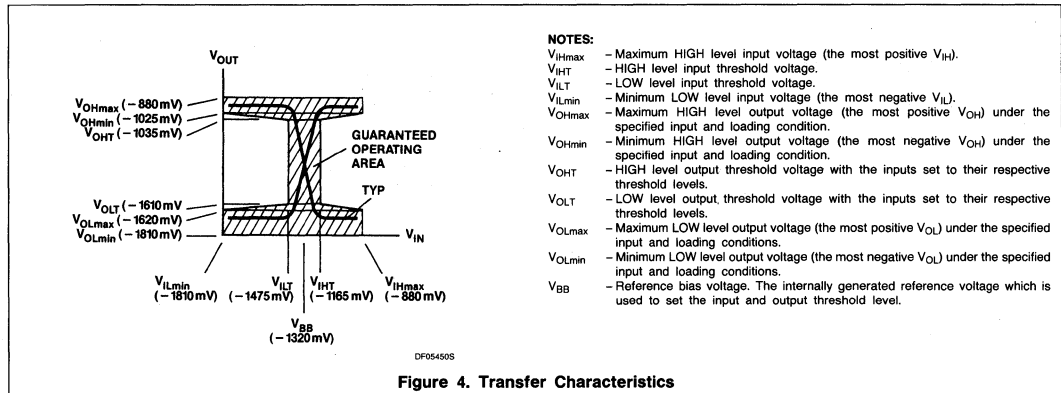

Figure 4. Transfer Characteristics
4. The specified limited shown in the DC Characteristics can be met only after thermal equilibrium has been established. Thermal equilibrium is established by applying power for at least 2 minutes while maintaining transverse air flow of 2.5 meters/s (500 linear feet/min) over the device either mounted in the test socket or on the printed circuit board. Test voltage values are in the DC Operating Conditions and defined in Figure 4.